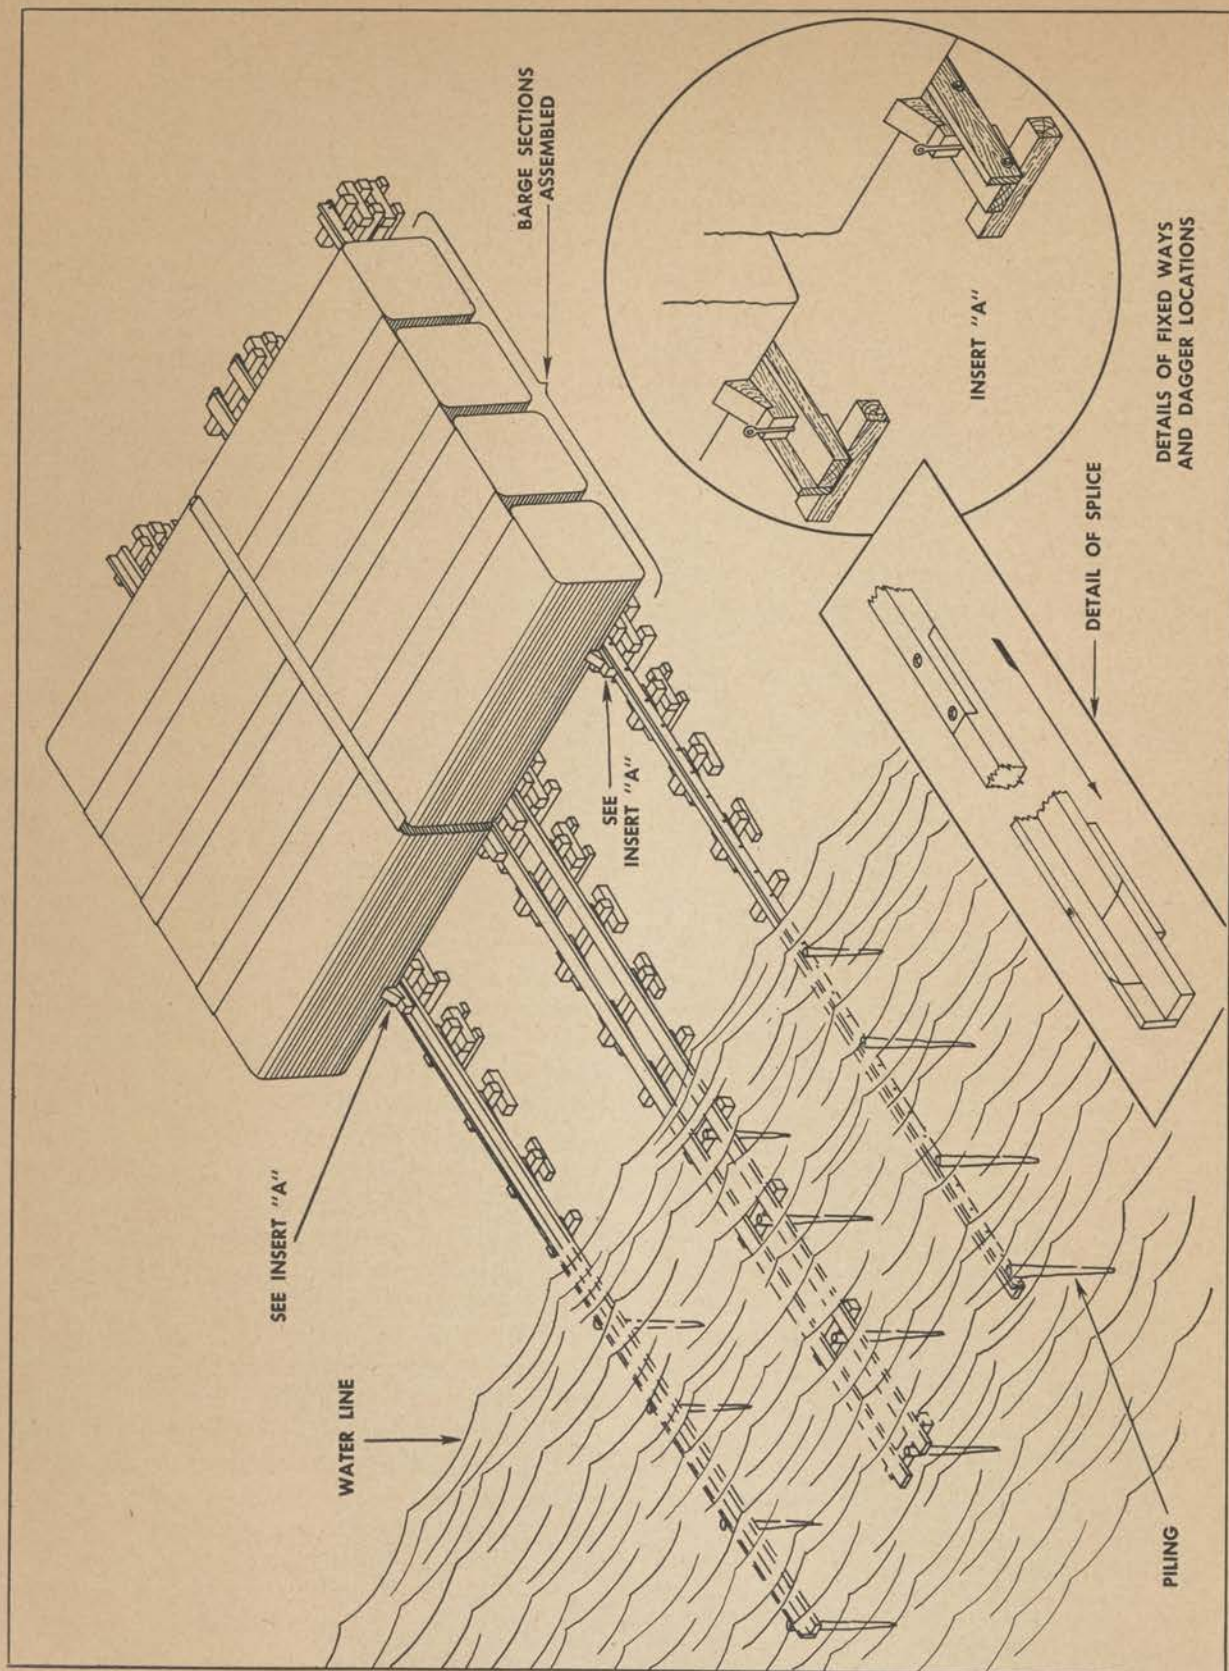

Figure 18. Typical construction of launching ways.
c. LAUNCHING WAYS. (1) Launch the barge broadside or along its longer dimension. A general view of a suggested type of launching ways is given in figure 18.
(2) Construct the fixed ways at the proper inclination and carry them far enough below the water surface to permit the barge to float. Provide sliding ways upon which the barge vessels are to be assembled. Provide suitable arrangements for holding the sliding ways in position until the assembled barge is ready for launching. Grease the ways to reduce the friction between the sliding and the fixed sections.